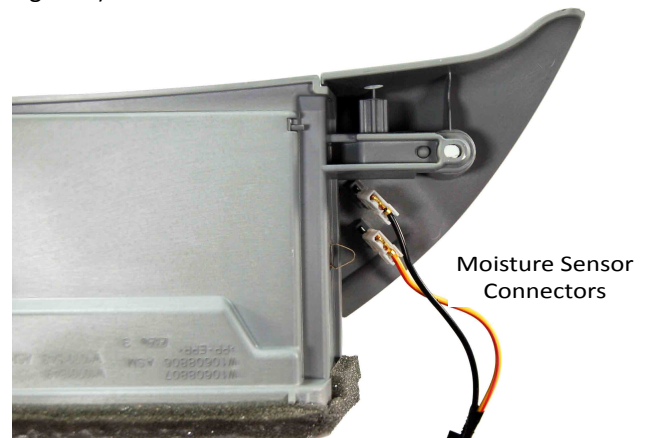

Figure 4
8. Remove the harness from the moisture sensor strips (see Figure 4).